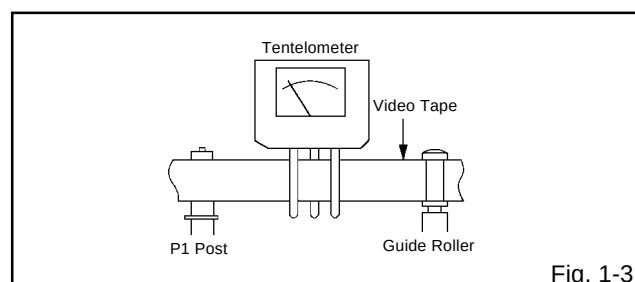

Fig. 1-3
- Install the tentelometer as shown in **Fig. 1-3**. Confirm that the meter indicates $20 \pm 2\text{gf}$ in the beginning of playback.
- After confirmation and adjustment of Tension Post position (Refer to item 1-2), load the cassette type torque tape (**KT-300NR**) and set to the PLAY mode.